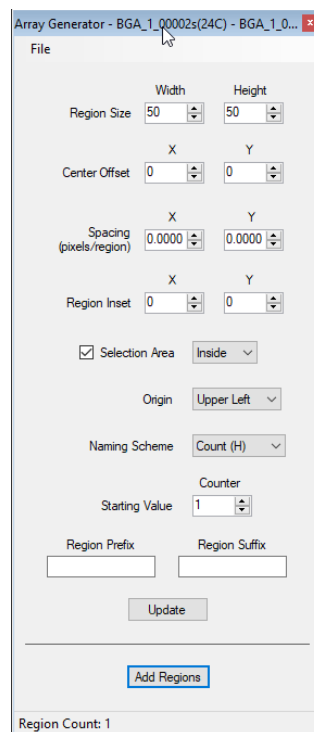

Figure 3.32 Partition Array Parameters
2. By default, a grid of ROIs appear on the phase image. Also, a box with various array parameter options appear (**Figure 3.32**). The **height** and **width** refer to the individual dimensions of a single ROI. The **center offset** is the distance of the center of the full array from the center of the image. The **spacing** controls how much space exists between each partition region. The **inset** refers to how much of the image is covered by the array (a larger inset reduces the total array size). Each option affects all ROIs in the same way.